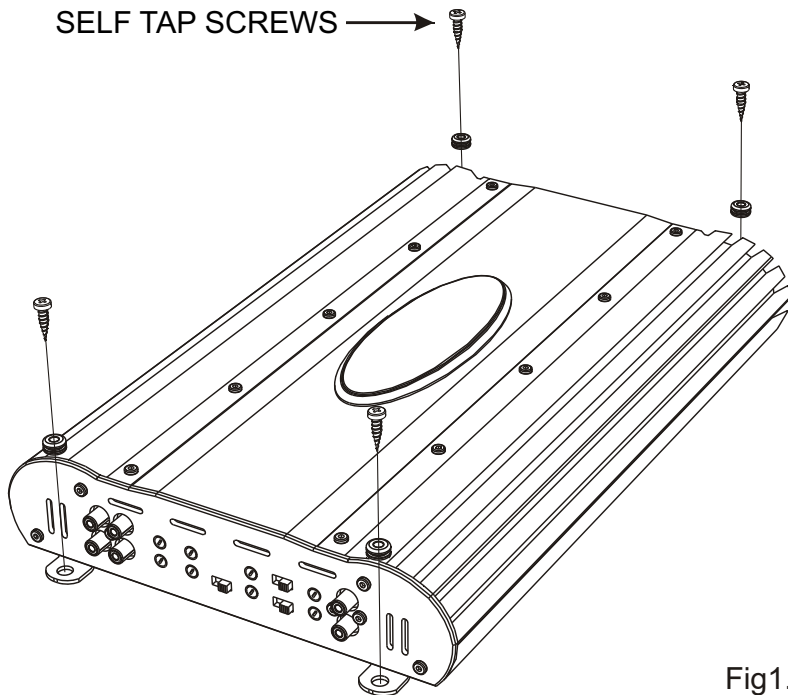

Fig1.
1. After reading precaution, decide where you are going to install the unit. Also, see Fig.1.